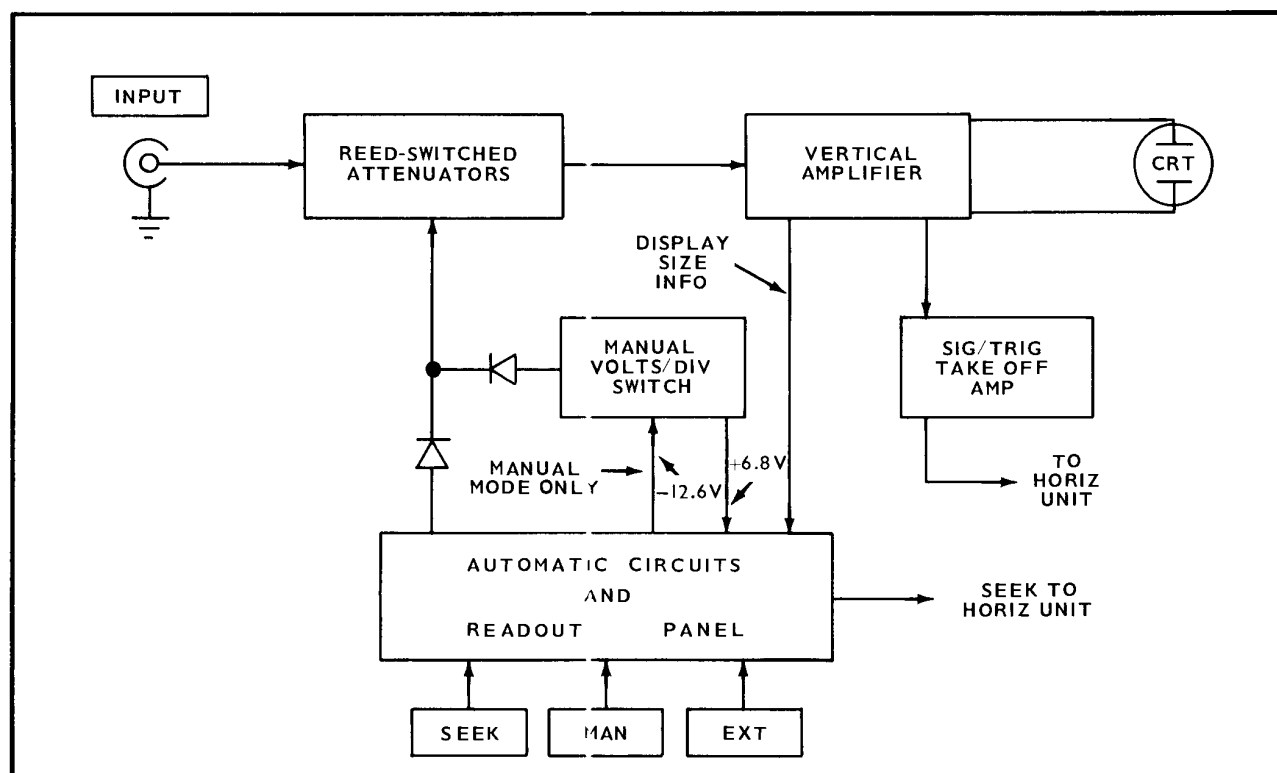
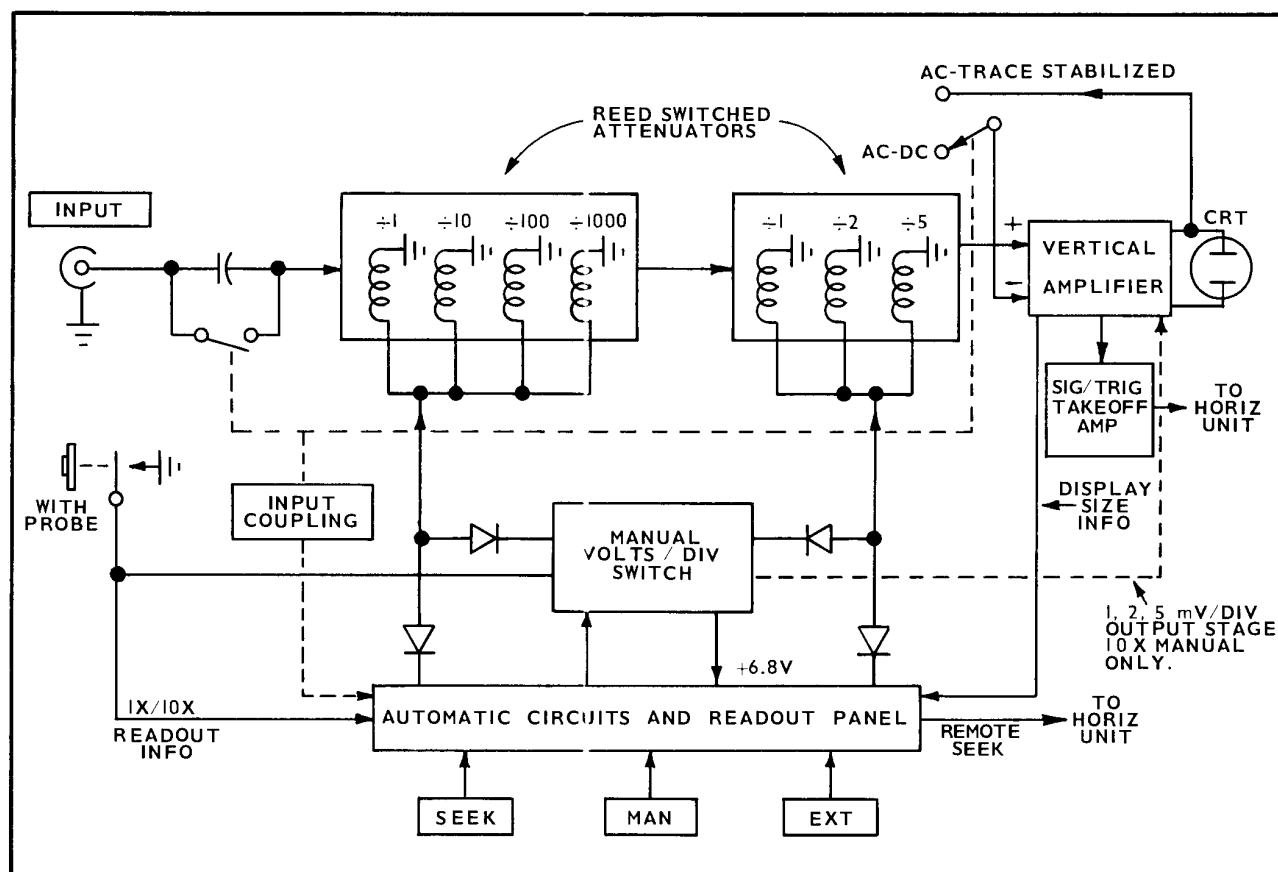

Fig. 3-1. Type 1A5 simplified block diagram.
Fig. 3-2. Basic interconnections between vertical system and automatic system.
A simplified block diagram of the most basic blocks of the Type 3A5 is shown in Fig. 3-1. The Type 3A5 input attenuators are operated by either the MANUAL VOLTS/DIV control or the automatic circuits. Display size information from the vertical amplifier controls the response of the automatic circuits once they have been put into operation. The two connections between the automatic block and the MANUAL VOLTS/DIV switch block (of Fig. 3-1) are power control lines. The automatic control circuits supply -12.2 volts to the MANUAL VOLTS/DIV switch only during manual mode operation. The MANUAL VOLTS/DIV switch will change the mode of operation from SEEK to manual any time the switch is turned (provided an external programmer is not connected and operating). The $+6.8$ volts to the automatic block is interrupted as the MANUAL VOLTS/DIV switch travels between detent positions, changing the mode to manual.
Fig. 3-2 block diagram shows more basic interconnections between the automatic circuits and the vertical system. The connections added to those of Fig. 3-1 are: (1) "WITH PROBE" switch for $10\times$ scaling of the readout when operating with P6030 $10\times$ Probe; (2) two sets of reed-switched attenuators; (3) the AC—TRACE STABILIZED feedback path around the vertical amplifier, and (4) the Input Coupling switch is shown as feeding information to the readout circuits.